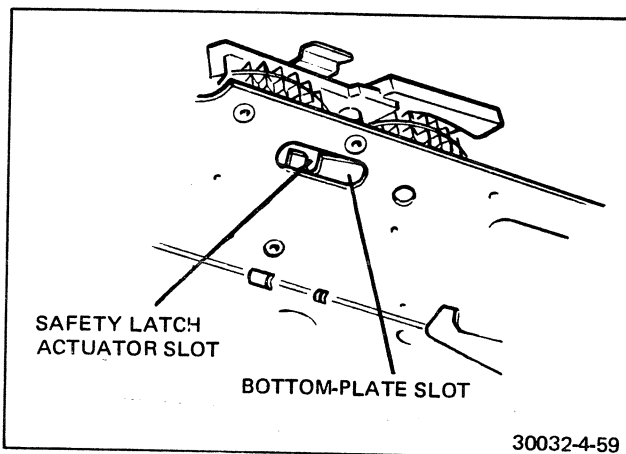

FIGURE 4-59 IDENTIFY SLOT IN SAFETY LATCH ACTUATOR
6. Before proceeding with the installation, locate the slot of the safety latch actuator behind its slot in the bottom plate assembly. Remember the location of this slot (see Figure 4-59) since the inner frame will cover its position when it is installed.
9. Obtain the safety latch. Refer to Figure 4-59 and place the latch into position on the rim of the inner frame so that the longer of its two tabs engages the slot in the actuator. This operation must be performed by feeling for the